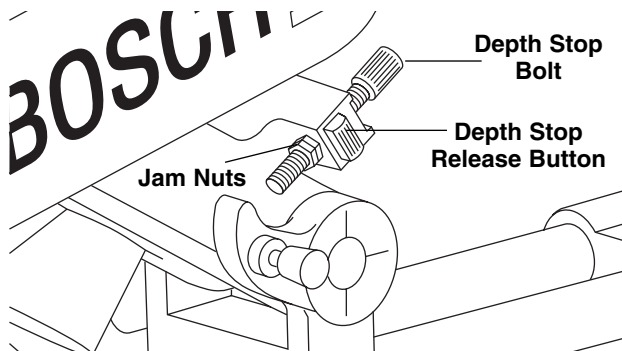

Figure 33. Cutting Grooves
1. For major adjustments, press the depth stop release button and slide the depth stop bolt to the desired location (Figure 33).